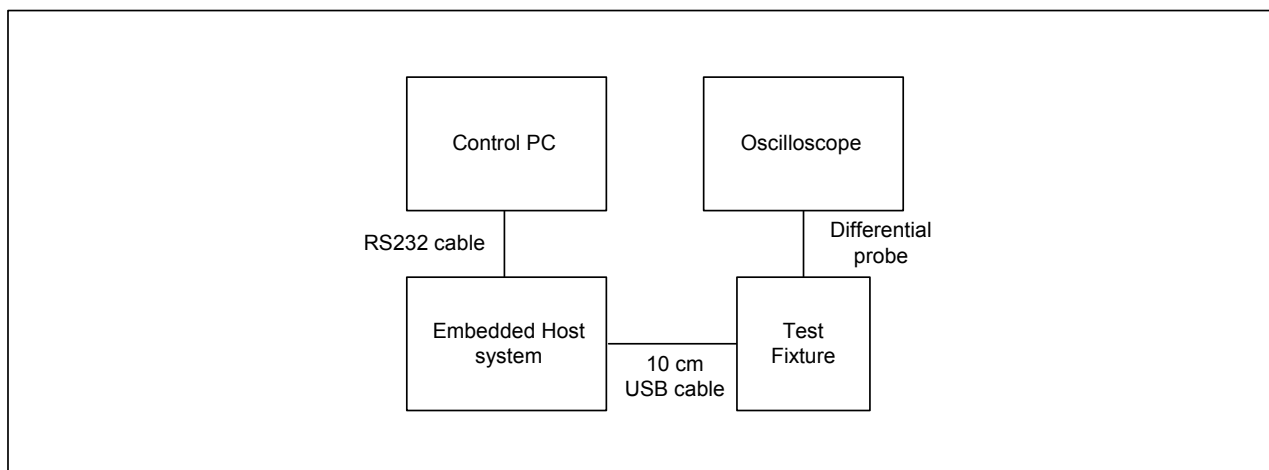

Figure 5-3 High-speed downstream signal quality testing configuration
Measures the HS transmission wave eye pattern. This measurement is made if the system supports HS devices. Figure 5-3 shows the testing configuration.
1. Connect as shown in Figure 5-3.